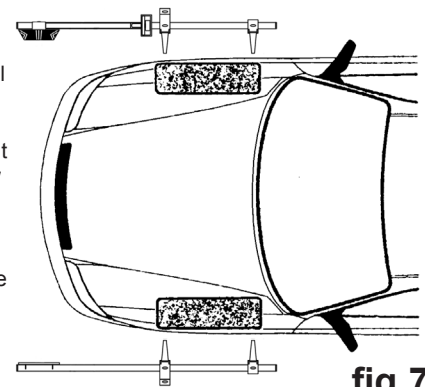

fig 7
4.1.8 Now set up the two parts of the gauge (see fig.7) and hold down the laser button (the beam will cut-out when the button is released). Take hold of the adjusting arm and move it until the laser beam is on the centre line of the target plate. The graduated scale will now show the amount of toe-in or toe-out in degrees and minutes. Each division of the scale represents 10 minutes. If you cannot see the laser on the target plate then you will need to adjust the laser unit using the thumbscrews.